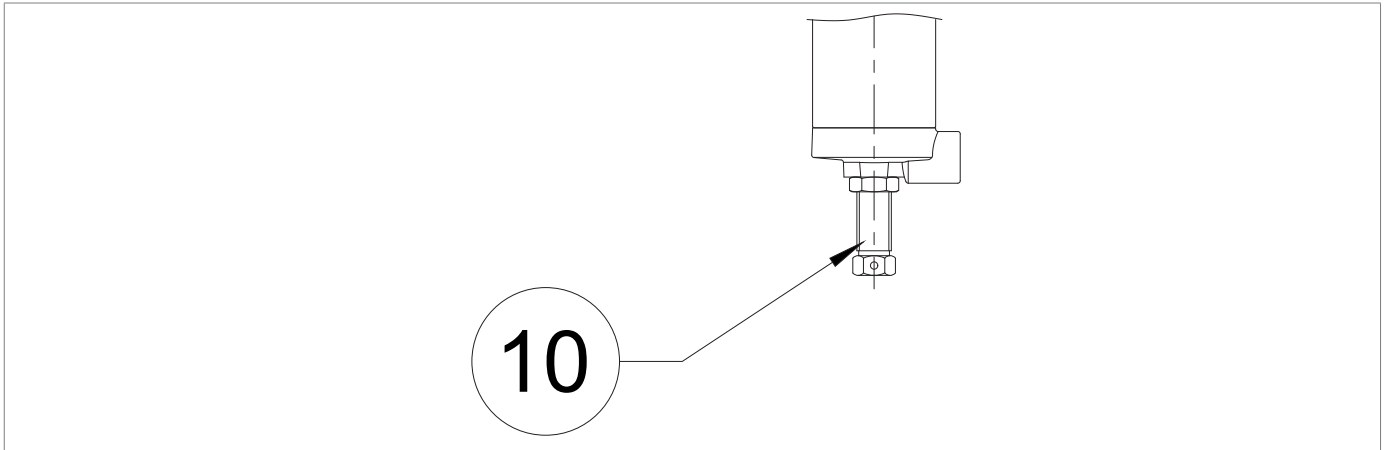

Fig. 8.30. 200/A series pilots
4	Completely relieve the pilot spring (11) by turning the adjusting screw (fig. 8.30) anti-clockwise.
6	Turn the adjusting screw (fig. 8.30) of the monitor pilot (11) clockwise to increase the downstream pressure value to the selected monitor operating value. ! NOTICE! Check the pressure referring to the pressure gauge (5) located upstream.
7	Turn the adjusting screw (fig. 8.30) on the pilot (3) anti-clockwise to relieve the calibration spring until the pre-set downstream pressure value has been reached.
13	Insert and secure the adjusting screws and fixing nuts (fig. 8.30) of the pilots (3, 11).
3	Completely compress the pilot spring (3) by turning the adjusting screw (fig. 8.30) clockwise.
4	Completely relieve the pilot spring (10) by turning the adjusting screw (fig. 8.30) anti-clockwise.
7	<p>Slowly increase the downstream pressure by turning the adjusting screw (fig. 8.30) of the monitor pilot (10) clockwise until the tripping pressure value for the M/A accelerating valve (11) has been reached.</p> <div style="border: 1px solid blue; padding: 5px;"> <p>! NOTICE!</p> <p>Check the pressure referring to the pressure gauge (5) located upstream.</p> </div>
9	<p>Turn the adjusting screw (fig. 8.30) on the monitor pilot (10) anti-clockwise to decrease the downstream pressure value to the selected monitor operating value.</p> <div style="border: 1px solid black; padding: 5px;"> <p>! NOTICE!</p> <ul style="list-style-type: none"> <li>• Ensuring that the M/A accelerating valve (11) has interrupted the gas discharge;</li> <li>• Check the pressure referring to the pressure gauge (5) located upstream.</li> </ul> </div>
10	<p>Turn the adjusting screw (fig. 8.30) on the pilot (3) anti-clockwise to relieve the calibration spring until the pre-set downstream pressure value has been reached.</p> <div style="border: 1px solid black; padding: 5px;"> <p>! NOTICE!</p> <p>Check the pressure referring to the pressure gauge (5) located upstream.</p> </div>
2	Completely unscrew the fixing nut (fig. 8.30) of the pilot screw (3).
3	Completely relieve the pilot spring (3) by turning the adjusting screw (fig. 8.30) anti-clockwise.